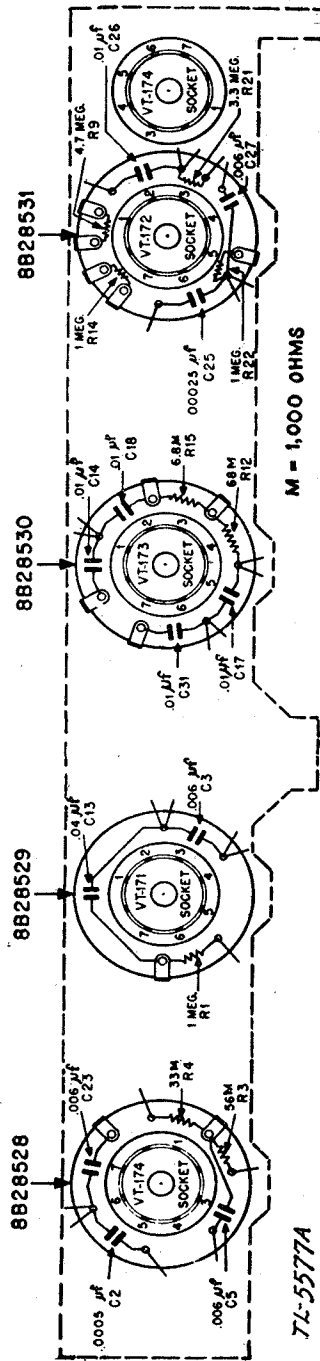

Figure 23.—Resistor-capacitor cups—schematic diagram.
b. Replacement of resistor-capacitor cups.—(1) There are four resistor-capacitor containers which are called cups on the bottom of the chassis. These cups fit around the tube sockets and it will be necessary to unsolder the wires from the tube socket as well as the cup before removing. The cups are fastened to the tube sockets by cement, and must be pried loose from the socket by a screw driver or a knife. The cup will be broken in the process.
(2) Each cup has a part number marked on it as well as a schematic drawing of the condenser and resistor connections. When replacing a cup, be sure that the new cup has the same part number as the old one. As a great number of wires will have to be unsoldered, it will be found helpful to put on paper a simple description of each wire removed and the point to which it connects. Reference to the cup diagrams shown in figure 23 also will be found helpful. The old cement should be scraped off the socket base before cementing the new cup in place. The new cups should be placed on the chassis so that the part number on the cup faces the back of the chassis, considering the press-to-talk switch side to be the front.